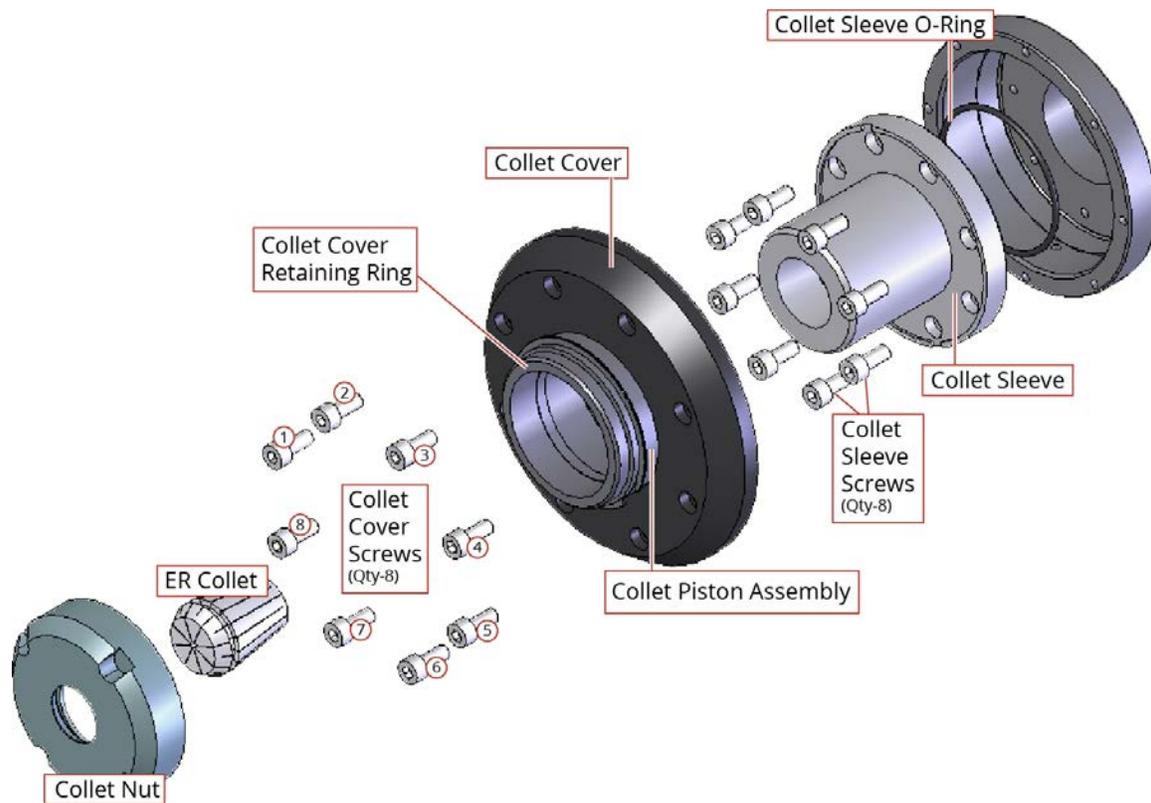

Figure 2-9: Collet Assembly Exploded View
- Step 5: Remove every other collet cover screw (see Figure 2-9). DO NOT remove all of the screws at the same time. The cap is under tension from several springs and will be damaged or cause bodily harm if not removed carefully.